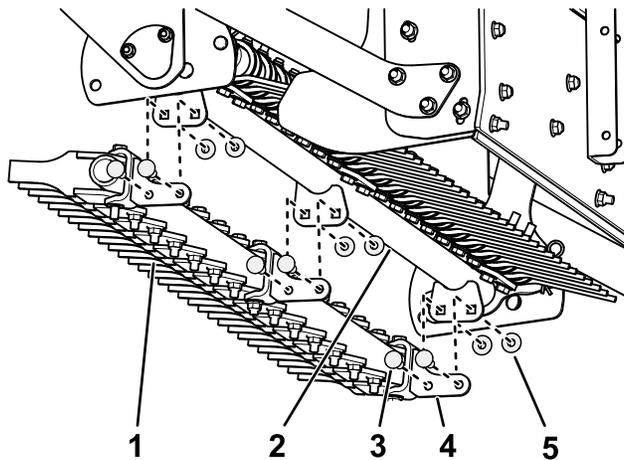

Figure 1
6. Insert the depth control pin into the TRANSPORT (T) position to keep the multi-tool attachment raised.
9. Remove the hard tine toolbar from bottom of the multi-tool arm as shown in Figure 1.